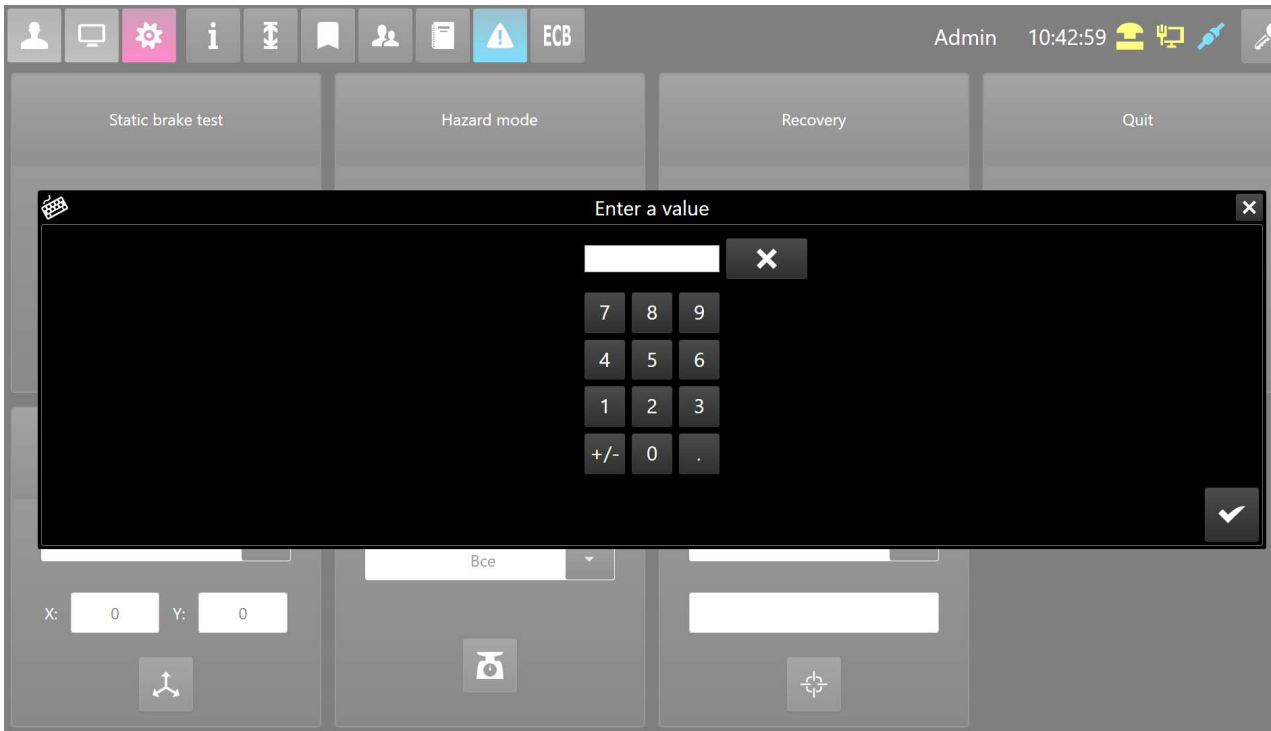

FIG. 57: SCREEN FOR POSITION CALIBRATION OF THE DEVICE
To calibrate the position of the device, choose a device from the list (3), click on the white text field and enter calibration value (see Fig. 57).